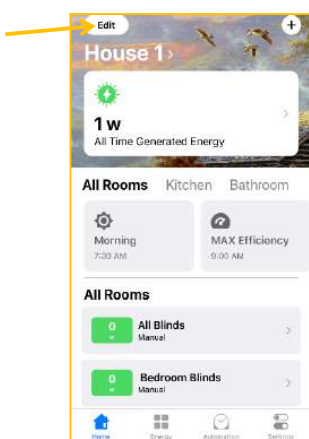

Figure 34
10.9.1. Click **Edit** tab in the top left corner to start (Fig. 34).